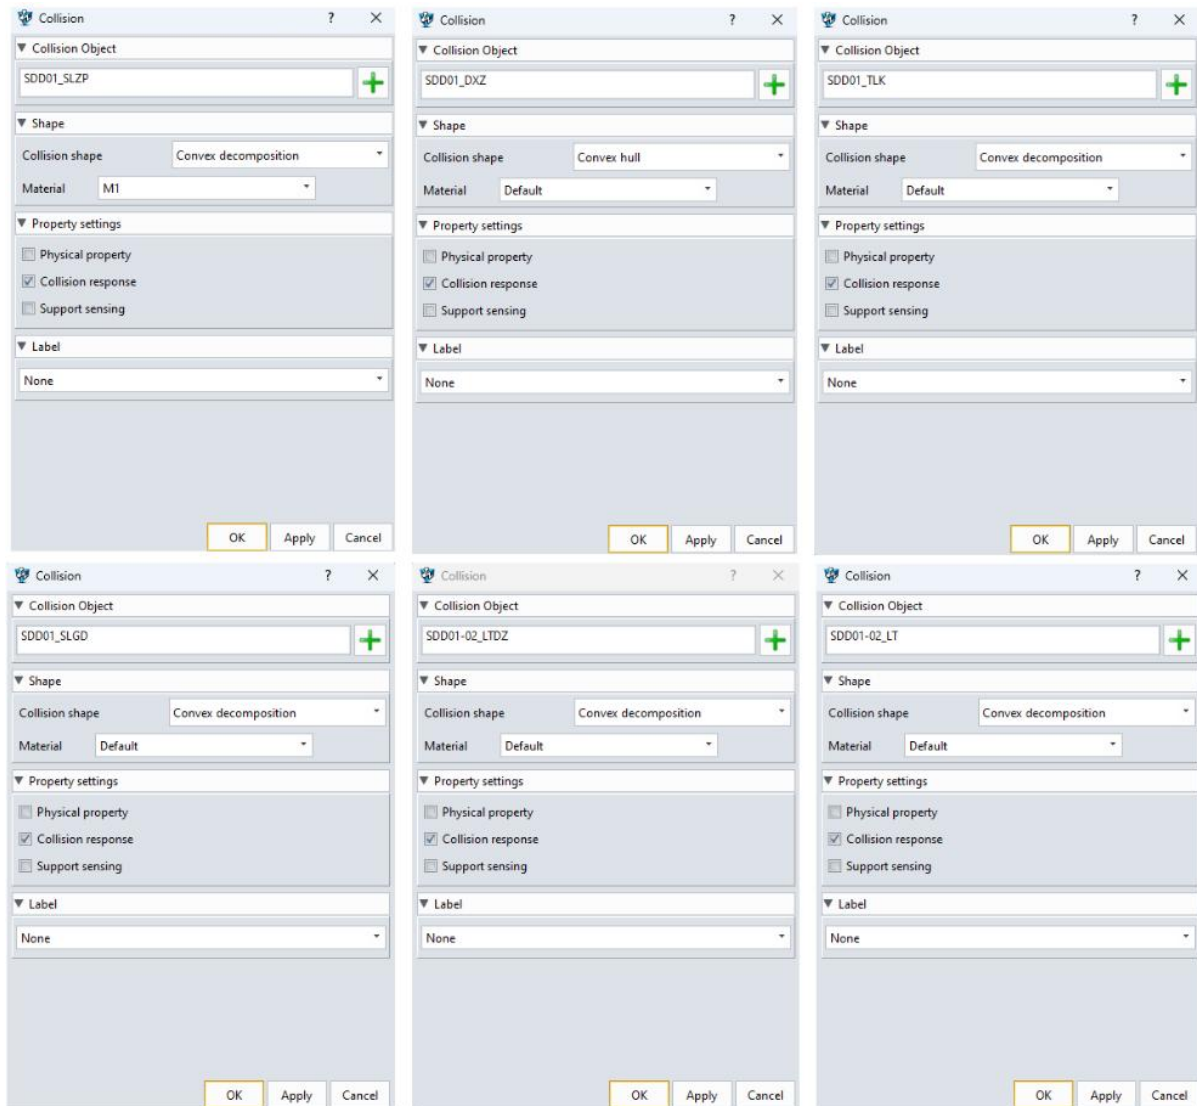

Figure 13-16: Collision message
- Choose appropriate collision shapes like "convex decomposition" or "convex hull".(Figure 13-16)
- Assign mass, material, and property settings for each collision.(Figure 13-16)